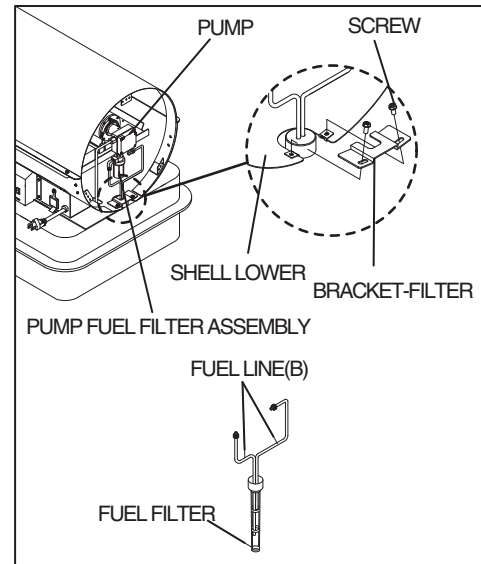

Figure 14. Remove Tank Fuel Filter
- Disconnect fuel line (B) from pump and pump fuel filter assembly with 3/8" wrench (See Figure 14).
- Connect fuel lines (B) to pump and pump fuel filter assembly.